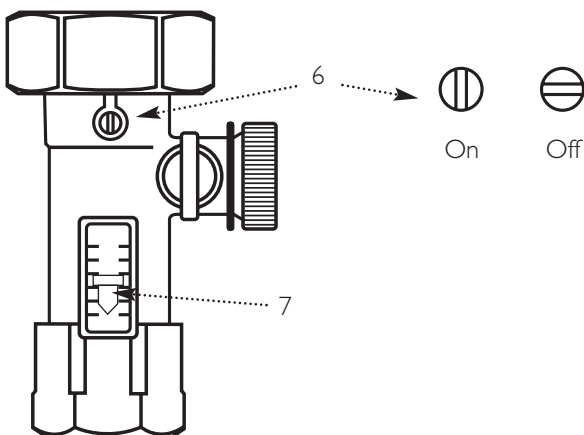

Fig. 1a
4. Turn the flow meter adjusting screw off (Fig. 1a item 6). 'Off' is when the screw is in the 9 O'clock position.
11. Turn the flow meter adjusting screw back to 12 O'clock to open, (Fig. 1a item 6). For flow rate adjustment see section 3.0.